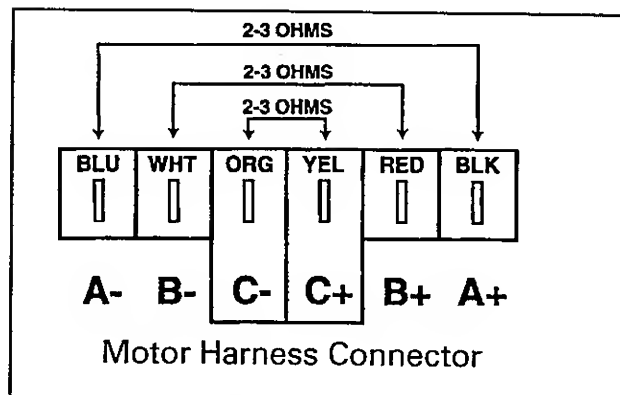

Figure 2-5
2. Remove each pair of phase wires from the motor control and perform an ohms check of each wire leading to the motor. Each wire pair should show 2-3 ohms resistance. (Figure 2-5)